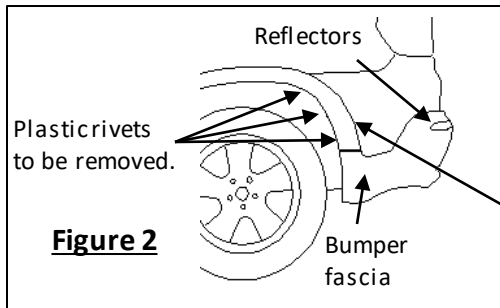
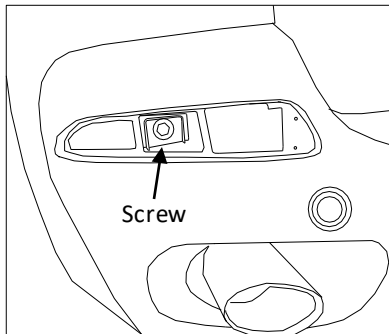
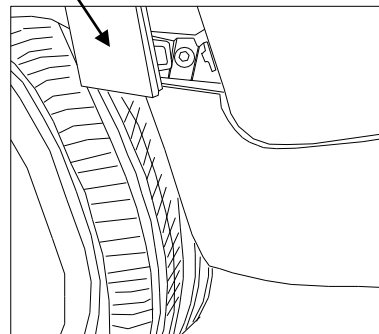

Figure 2
Figure 4
Figure 3
- a) Remove 2 or 3 plastic rivets (each side) from the plastic wheel well molding, see **Figure 2**. Rivets can not be re-used. Replacements supplied. To remove rivet, insert small center punch or drill bit into center to push pin through.
- b) Gently pull back wheel well molding to locate and remove fascia screws, see **Figure 3**. One or two depending on model each side.
- c) Remove 6 screws from bottom of fascia. (3) each side.
- d) Remove reflectors, (Reflector can be removed by releasing the clip that holds it in place, access under the bumper) (Figure 2). Remove the screws behind the reflectors, see **Figure 4**.